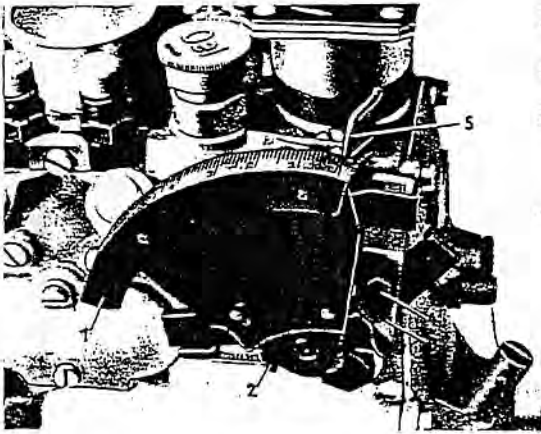

Fig. 00-16/2
For Models 230 SL and 300 SE with six-cylinder pump, the lever (3), which acts as a drive for the graduated disk on the injection pump, must be modified as shown in Fig. 00-16/6 by welding two lugs to the lever and beveling the upper right corner of the lever.